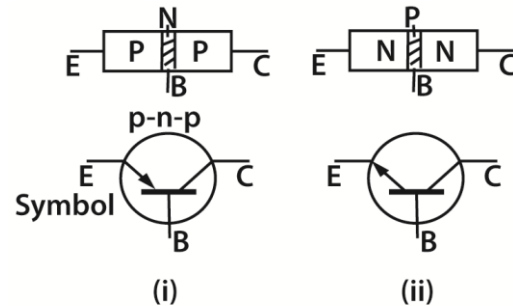

Fig. 9. Transistor symbols
The transistor is a current amplifier. A transistor is made from three layers of p- and n-semiconductors. They are called respectively the emitter (E), base (B) and collector (C). Fig. 9. (i) illustrates a p-n-p transistor, with electrodes connected to the respective three layers.
In n-p-n transistor, the emitter is n-type, the base is p-type and the collector is n-type. Fig. 9. (ii). The base is deliberately made very thin in manufacture.
The transistor, like the triode valve, is thus a three-terminal device. Fig. 9.(i) and (ii) shows the circuit symbols for p-n-p and n-p-n transistors respectively. In an actual transistor, the collector terminal is displaced more than the others for recognition or has a dot near it.